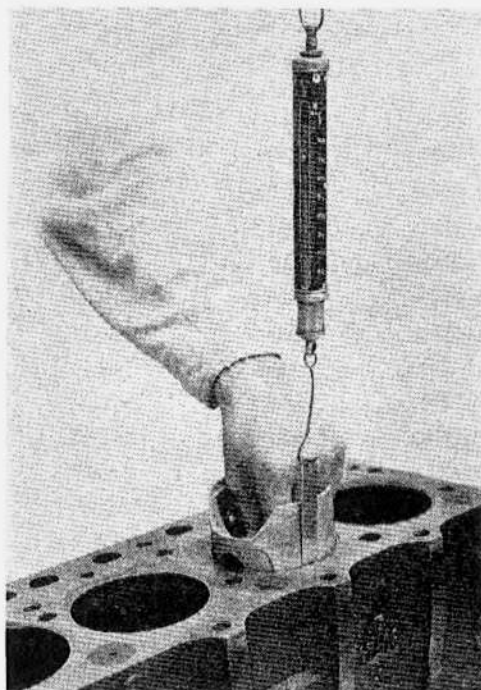

Figure 58 - Fitting Pistons
(1) Invert the piston, skirt end up, and place a .0015" by 1/2" wide feeler ribbon, part of piston fitting gage and scale tool on the side of the piston 90° from the piston pin holes.
(2) Insert the feeler ribbon and inverted piston into the cylinder bore so that the center of the piston pin is flush with the top surface of the cylinder block. Keep the feeler ribbon straight up and down and keep the piston pin parallel with the crankshaft axis.
(3) Pull the feeler gage straight up and out, noting at the same time the scale reading which should be between 2 and 5 pounds (Fig. 58).
(4) If the scale reading is greater than the maximum allowable pull, try another piston or lightly hone the cylinder bore to obtain the proper fit.
(5) Should the scale reading be less than the minimum allowable pull, try another piston, or if standard size, try a standard high limit piston. If proper fit cannot be obtained, it will be necessary to rebore the cylinder to the next oversized piston.